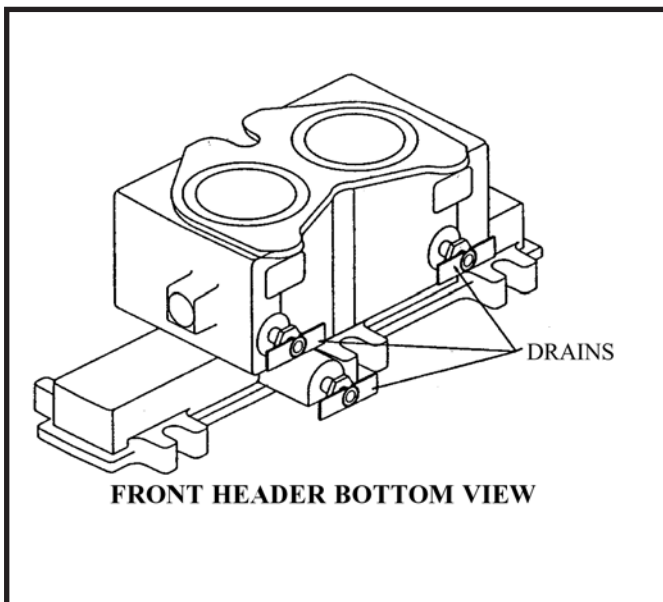

FIG. 60 Front Header - Bottom View
- (e) Locate the three (3) drains on the bottom of the front header (Figure 60).
- (f) Open all three (3) drains and allow the heat exchanger to drain completely. Leave drains open until Spring. Drain the pump and related piping.